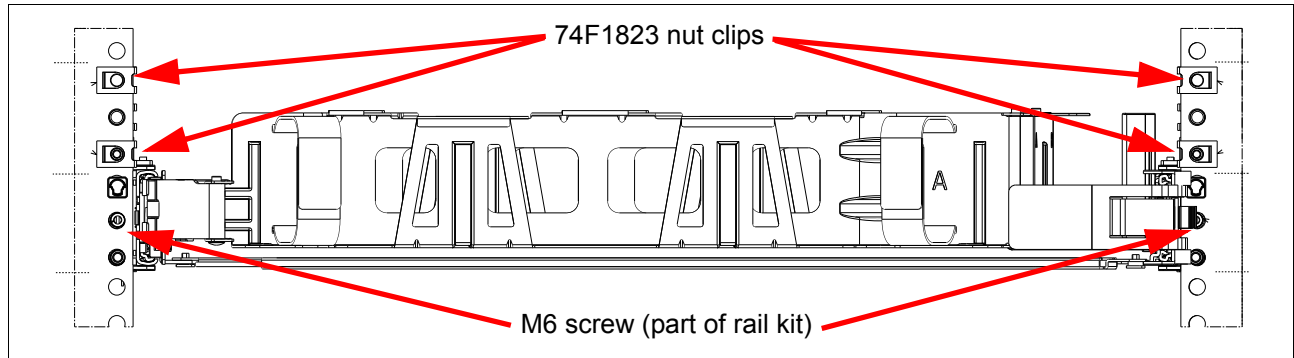

Figure 2-4 Screws and nuts for the I/O enclosure rails (back)
- a. Remove the M6 screws from the back of the rails. See Figure 2-4 on page 48 for the screw locations.
- d. Install the nut clips and the M6 screws from the rail kit at the back of the enclosure. See Figure 2-4.